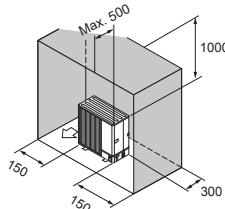

Fig. 2-11
- (6) Obstructions or closed surfaces at rear, sides, and above only (Fig. 2-11)